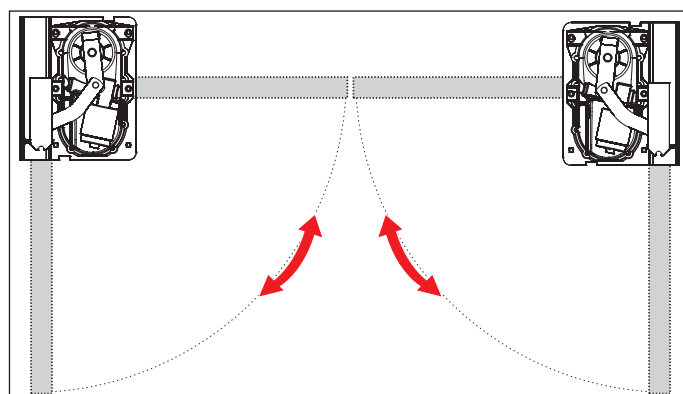

Fig. 3
3. Place the foundation box with the operator unit into the prepared foundation according to the opening direction of the gate leaf as shown in Fig. 3. See also chapter "3.4 Explanation of terms and tool symbols used".